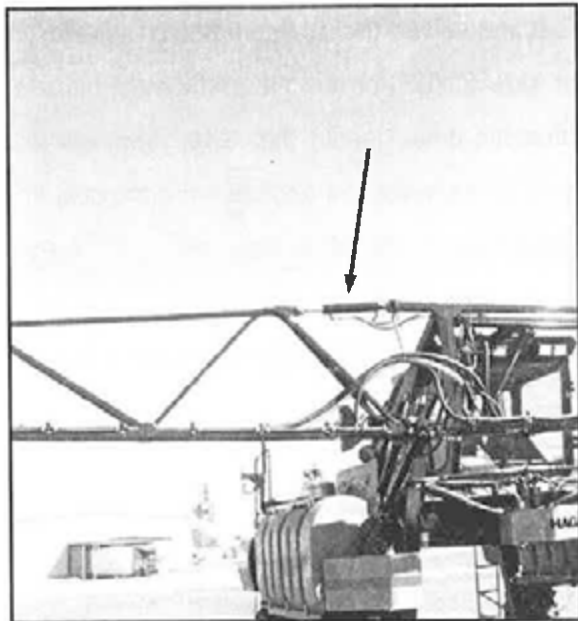
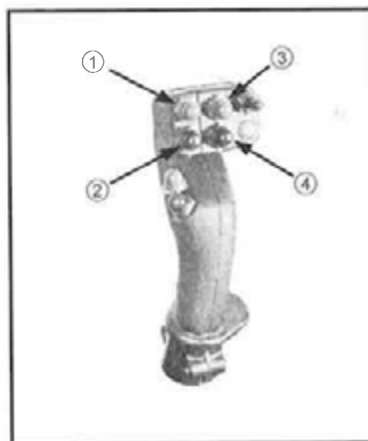

FIG 5.21
FIG 5.22
To increase or decrease the angle of each individual boom level, depress the left or right "GRAY" (UP) or the left or right "RED" (DOWN) buttons on the hydrostatic drive handle (fig. 5.22, items 1 thru 4). While depressed, these buttons activate the level cylinders connecting either boom to the transom (fig. 5.21).